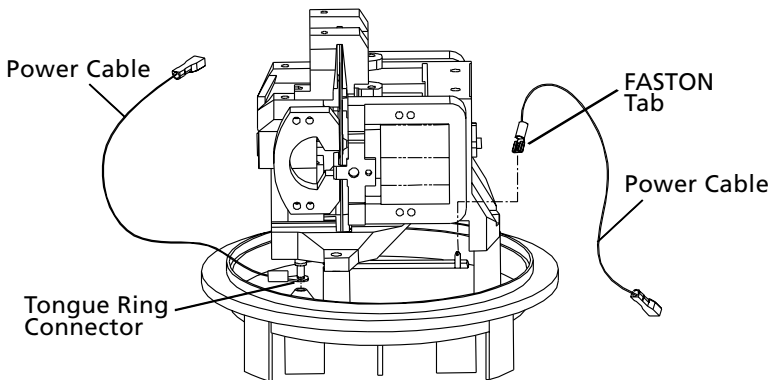

Figure 10. Attaching Power Cables
2. Attach the power cables. Connectors are different for each cable. See Figure 10.